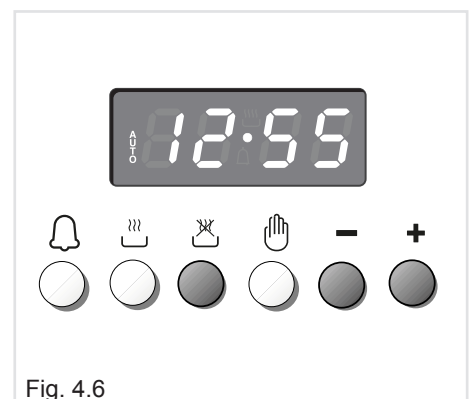

Fig. 4.6
2. Set the end of the cooking time by pressing the  button (the cooking time already added to the clock time will appear), and the $+$ button (fig. 4.6); if you pass the desired time you may get back by pushing the $-$ button.